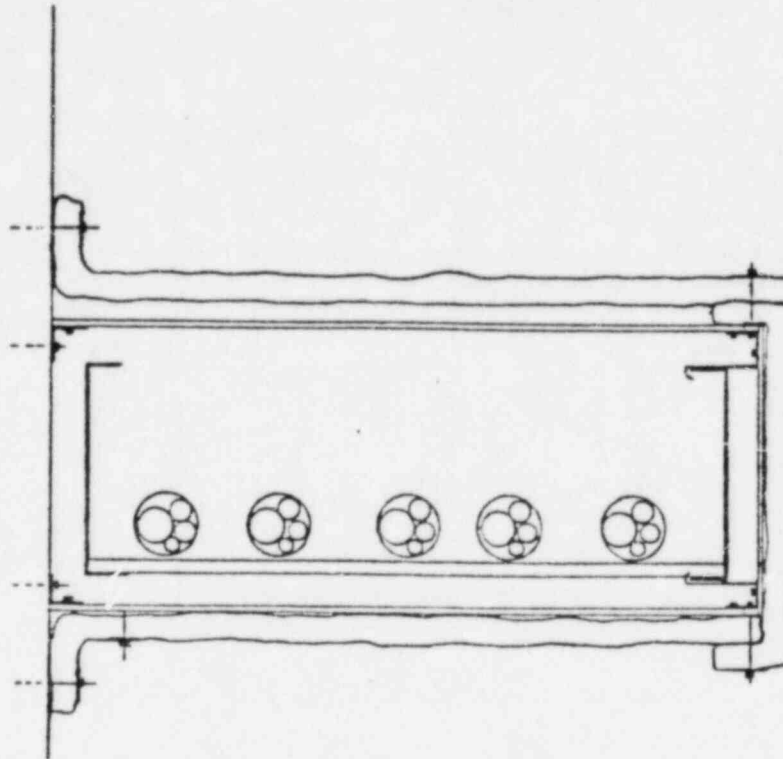

FIGURE 6
6.3.1 Where walls, ceilings or partitions prevent the installation of the full system (framework and blanket) the blanket may be installed as shown in Figure 6. Extra blanket supports may be required as determined by the Installer's Site Engineer.